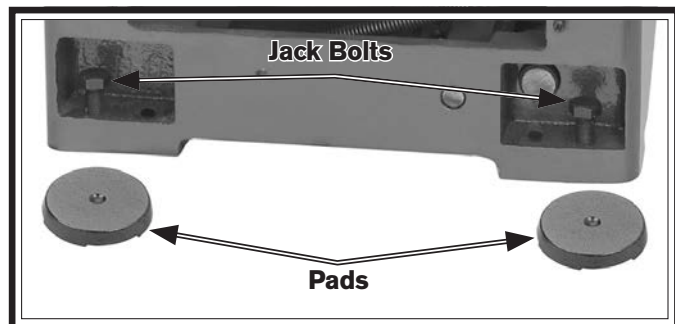

Figure 17. Leveling pads and screws.
- If using the included leveling pads (see **Figure 17**), place them under the six leveling jack bolt locations, then adjust the bolts to level the lathe.